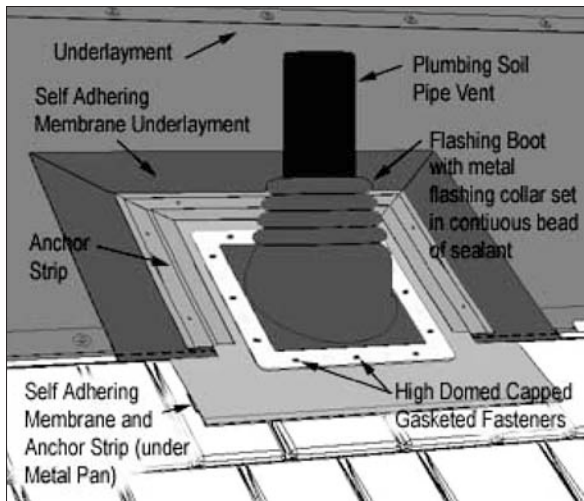

FIGURE 1-41 Completed Pipe Penetration Construction
5. To secure the Tapered Hem of the Panel on top of the metal pan apply Anchor Strips. *See Figure 1-41.* Prior to applying the Anchor Strip on top of the metal pan, apply or "strip in" Self Adhering Membrane to seal around nail penetrations.
4. To secure the Tapered Hem of the Panel on top of the metal pan apply Anchor Strips. *See Figure 1-41.* Prior to applying the Anchor Strip on top of the metal pan, apply or “strip in” Self Adhering Membrane to seal around nail penetrations.